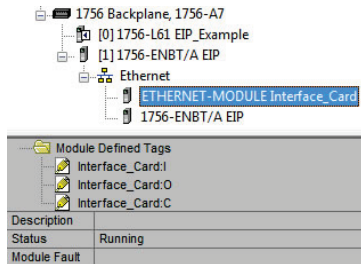

Figure 45: Online Module Status
- 7) Switch to online mode and download the project to the PLC. Verify that the newly-added inverter is available and operating correctly by observing any indications shown on the inverter’s icon. When the inverter’s icon is selected, its status and any available error messages will be displayed in the area below the project tree. Refer to Figure 45. Also confirm that the interface card’s “Network Status” LED should be solid green, indicating an “online/connected” state.